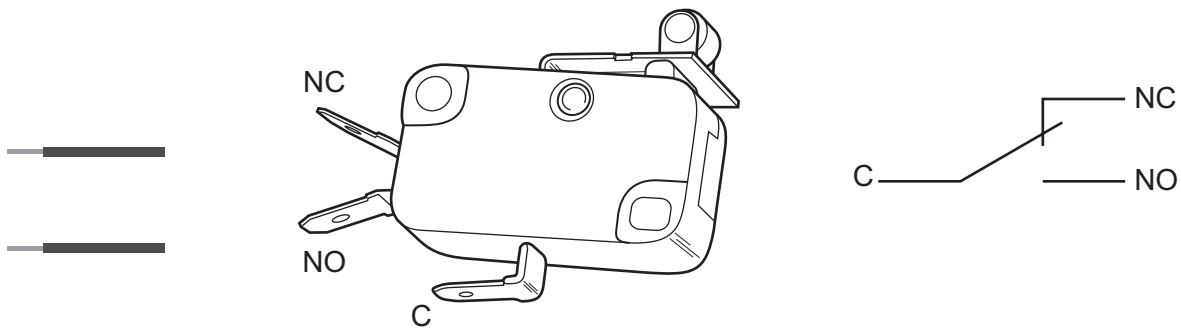

Fig. 6
- 9 Fig. 6 shows a microswitch and the symbol for the microswitch.